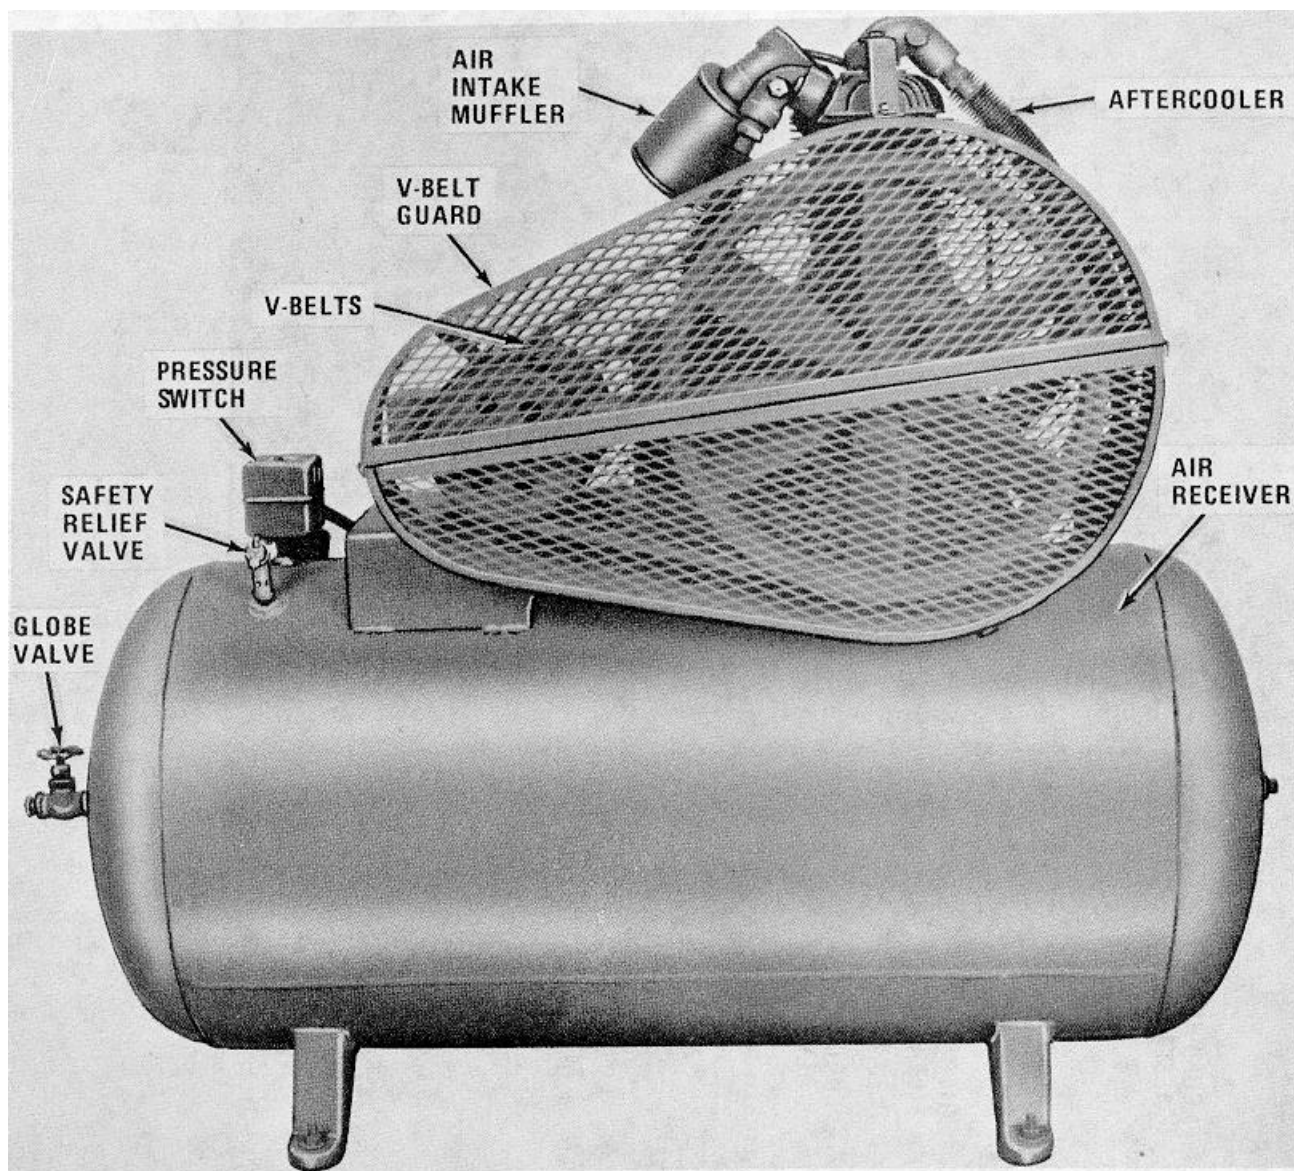

Figure 1-2. Air Compressor, left side view.
**f. Safety Relief Valve.** The safety relief valve (fig. 1-2) is mounted on top of the air receiver tank at the motor end. It is a preset valve that is actuated when the air receiver tank receives a pressure of 200 psi (14.06 kgs per sq cm) or more. This valve can be
(1) Close globe valve (fig. 1-2).